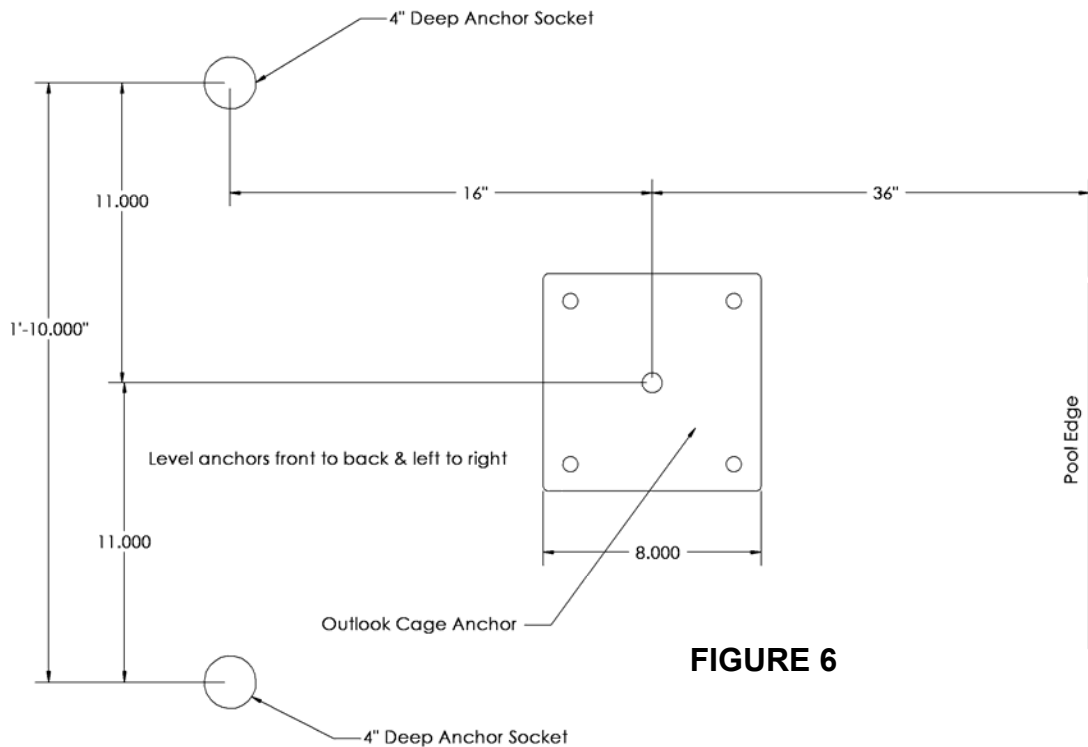

FIGURE 6
8. The Outlook II™ Guard Chair unit is to be anchored to the deck using two 4" deep AS-100B anchor sockets, and the Outlook II™ cage anchor assembly (both ordered separately). Install the anchors in the pool deck according to **FIGURE 6**. Properly ground the anchor sockets using the attached grounding screw and appropriate grounding wire per local codes. Allow concrete to cure before installing the Outlook II™ Guard Chair unit.